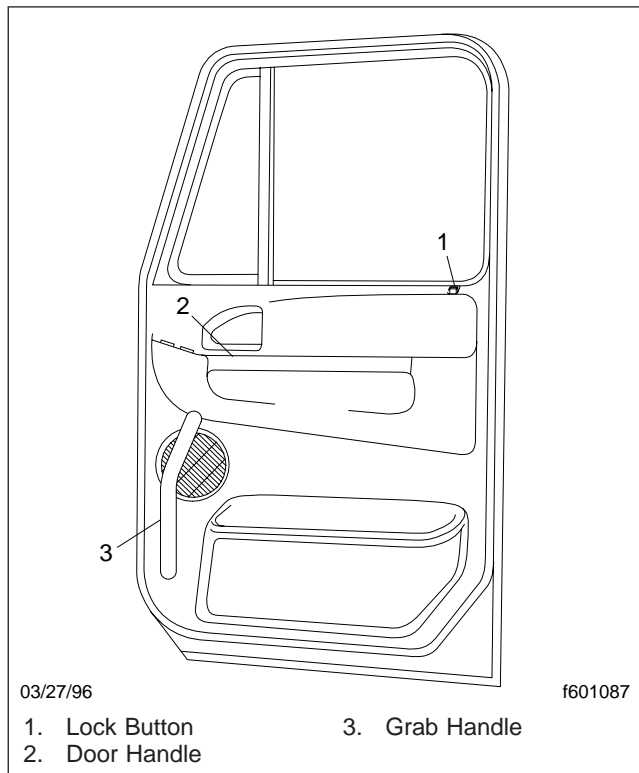

Fig. 3.5, Passenger's Door Interior
3. Grasp the handle on the door (**Fig. 3.5**) with your right hand.
4. Move your right hand to the grab handle on the door (**Fig. 3.5**).